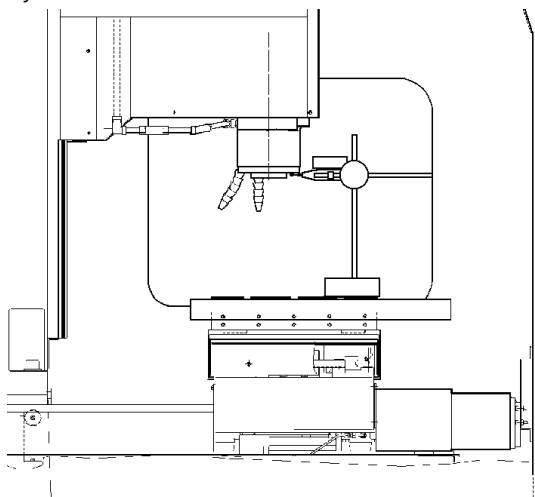

Fig. 3-3 Dial indicator in position to check Z-axis.
1. Set up a dial indicator and base on the mill table as shown in Fig. 3-3.